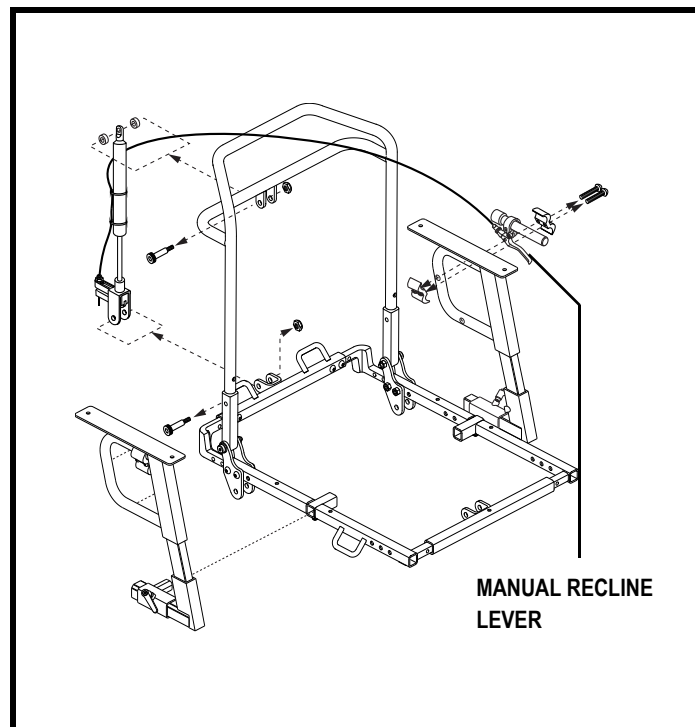

Figure 14. Manual Recline Seatback Adjustment
1. With your back pressed firmly against the seatback, squeeze the manual recline lever mounted to the armrest. See figure 14.
7. Remove the manual recline lever assembly and insert it into the clamp assembly on the opposite armrest. **See figure 14.**